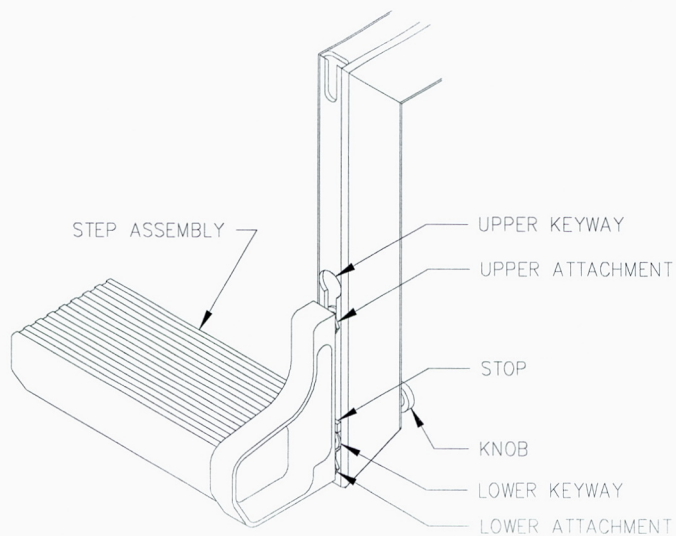

Figure 4 – Step Attachment
3. Step Installation – Refer to Figure 4.
4. Step Removal – Refer to Figure 4.